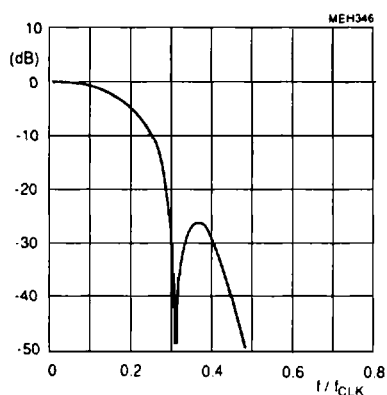

Fig.4 Transfer characteristics of 4:4:4 to 4:2:2 decimator.
1. Decimation for 4:4:4 formats input data (Formats 4, 5 and 7; Fig.4).